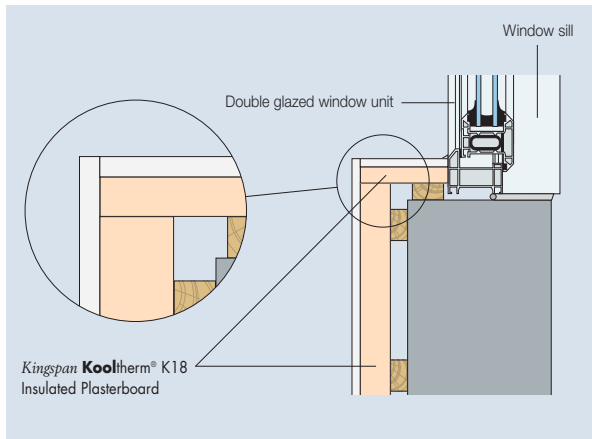

Figure 9 – Insulated reveal and external corner
- The use of a thinner sheet of **Kingspan Kooltherm® K18 Insulated Plasterboard** at reveals may be necessary (see Figure 9).